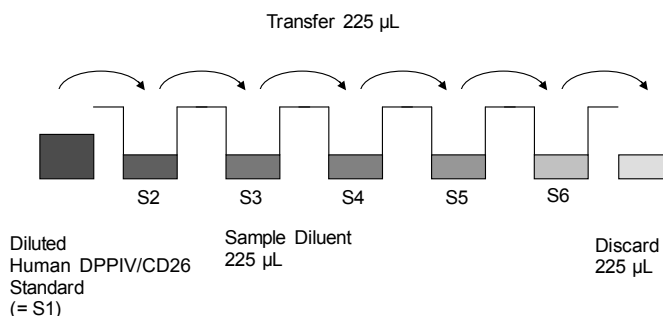

Fig. 6 Dilute standards - tubes
5. Repeat serial dilutions 3 more times thus creating the points of the standard curve (see Figure 6).